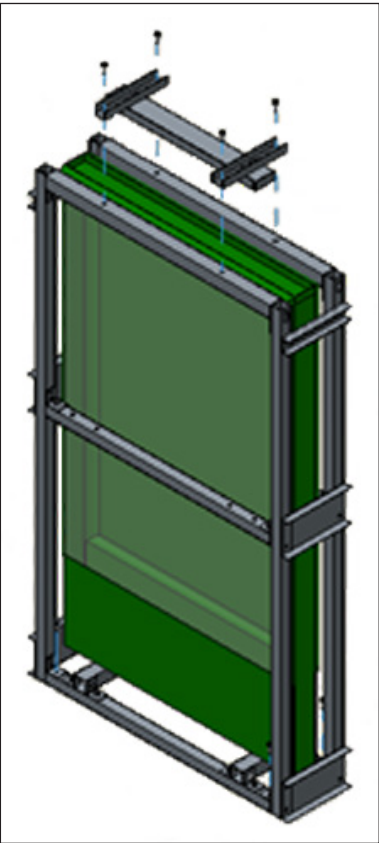

Figure 4: Removing Top Support Assembly
- 2. Unbolt and remove the top support assembly. Refer to Figure 4.